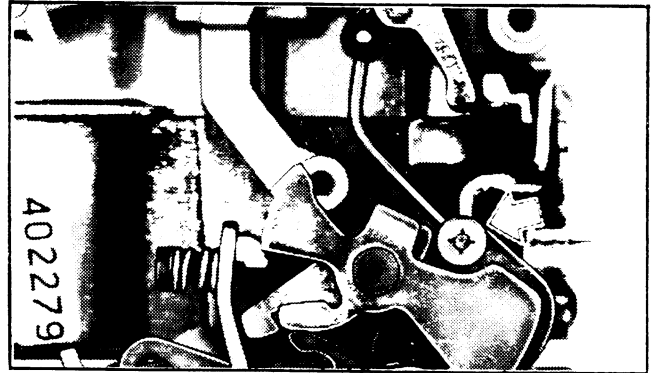

Figure 6C-123
6. Remove accelerator pump assembly (Fig. 6C-124).